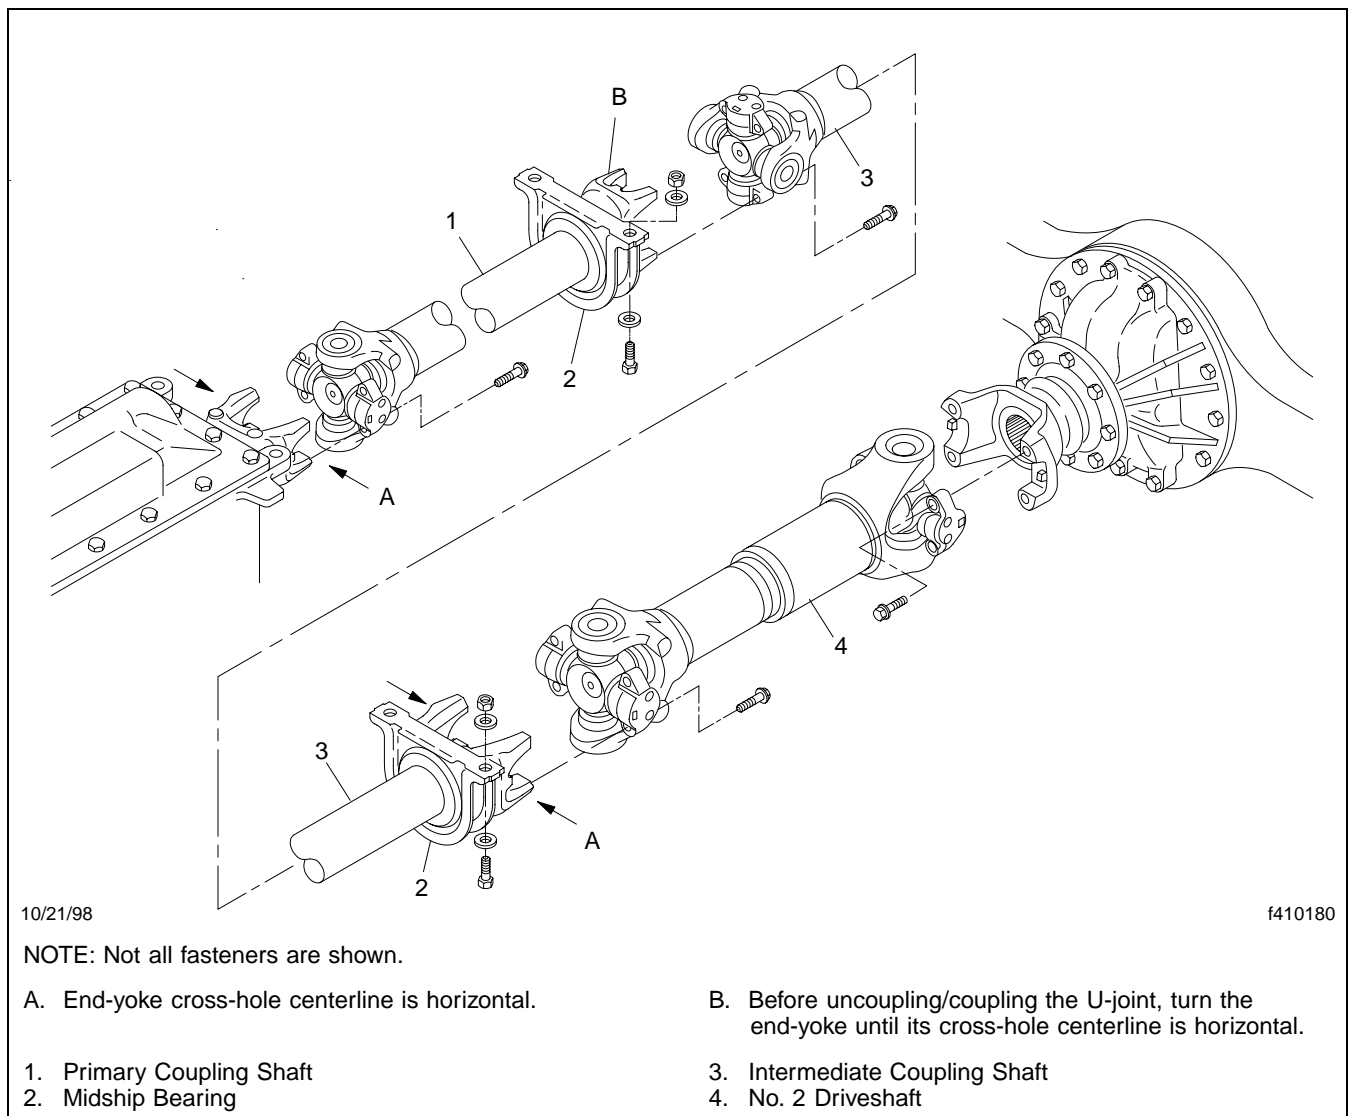

Fig. 1, U-Joint Uncoupling/Coupling for Drivelines With Half-Round End-Yokes, RPL U-joints
Refer to **Fig. 1** during U-Joint uncoupling procedures.
1. Roll the vehicle forward or backward as needed to turn the rearmost end-yoke (of the driveline that is being uncoupled) until the centerline through its cross-holes is horizontal. See **Fig. 1**, Ref. A and Ref. B.
5. Remove the fasteners that attach the midship bearing(s) to its bracket(s). See **Fig. 1**.